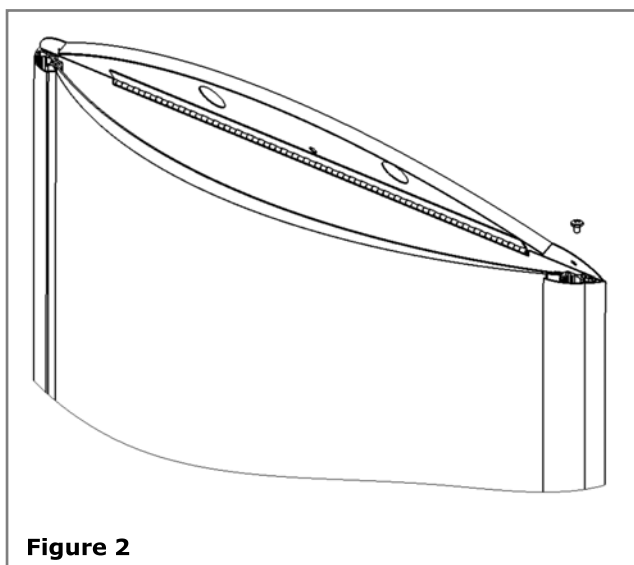

Figure 2
1. Remove the screws at the left and right ends on the top of the hinged plastic cap and flip it up. **See Figure 2.**